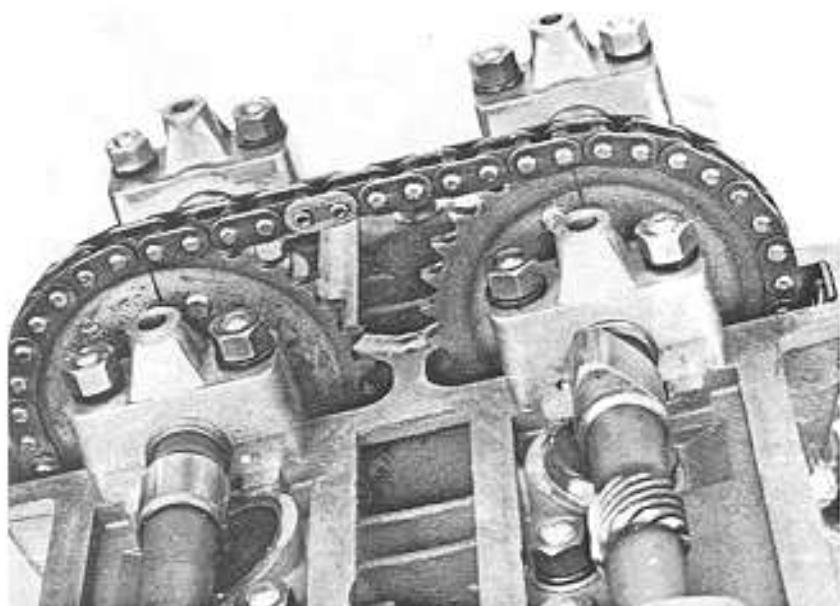
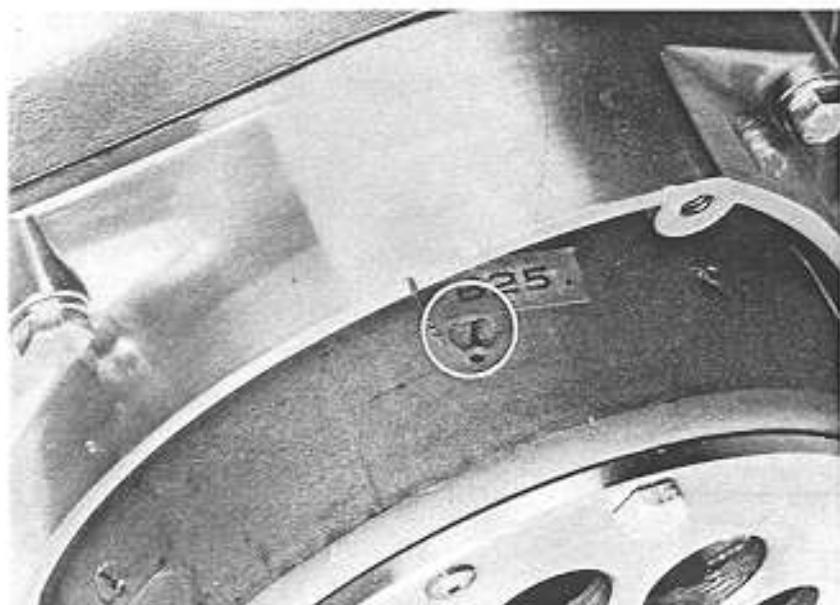

Fig. 26
Fig. 27
- Portare i pistoni dei due cilindri esterni in posizione di PMS. (Quando i due pistoni si trovano al PMS il segno esistente sul rotore è perfettamente allineato con il segno di riferimento praticato sul coperchio laterale destro) (Fig. 27).
- Position the camshafts as shown in figure 26 (the reference marks stamped on the sprockets should be aligned with the holes of the centre bearing caps).
- Turn the crankshaft and set both outer pistons at T.D.C. (When the outer pistons are at T.D.C. the reference mark on the generator rotor is aligned with the mark on right-hand crankcase cover) (Fig. 27).
- Make certain that the valve timing is correct, i.e. check that when the reference mark stamped on each camshaft sprocket is in line with the hole of the relevant bearing cap (see figure 26), the mark on the generator rotor is aligned with the one punched on the right-hand cover of the engine (see figure 27).